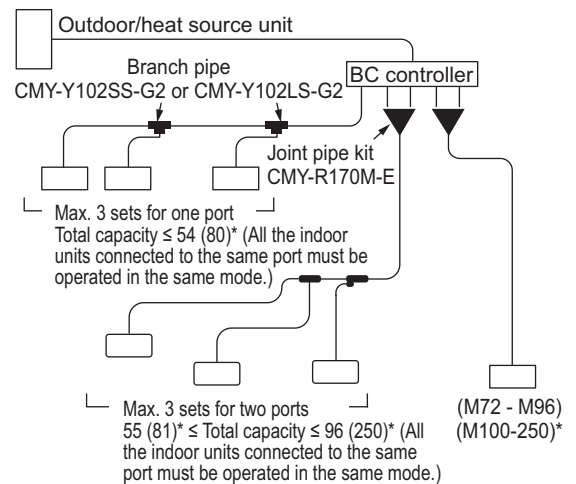

Fig.1. CMY-R170M-E applying scheme
Joint kit "CMY-R170M-E" for BC controller is used to combine 2 ports of the BC controller at a PURY/PQRY system so as to enable down-stream Indoor capacity above 54 (80)\* as shown in Fig. 1.